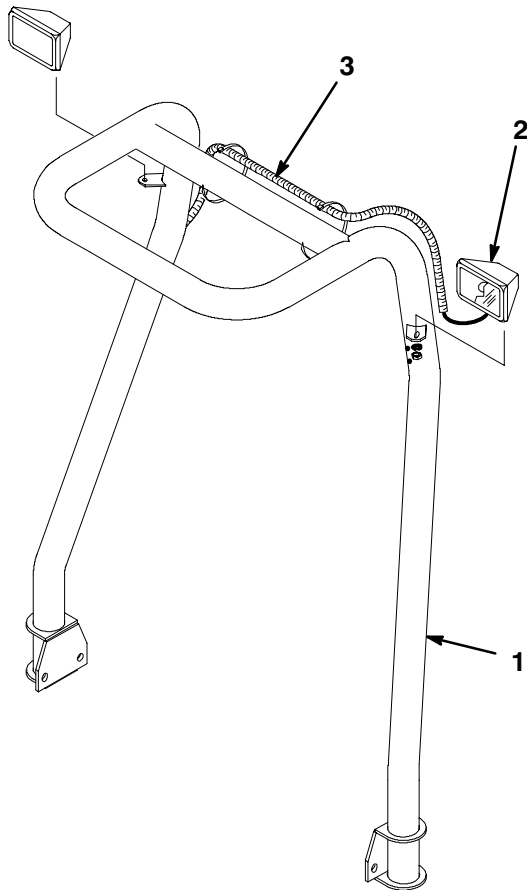

Figure 3
1. Loosely mount a lamp to tab on each side of ROPS with a lockwasher and hex nut (Fig. 3).